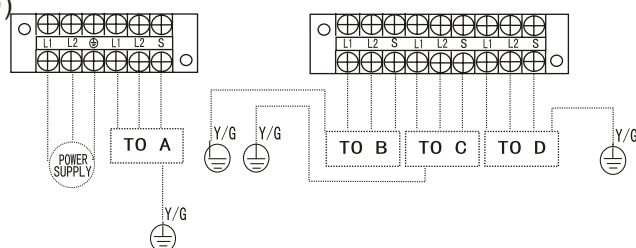

Fig.57
6. Now the indoor unit can be used as MULTI models (Fig.57). Because the control system is changed, the AUTO CLEAN function is unavailable for MULTI models.